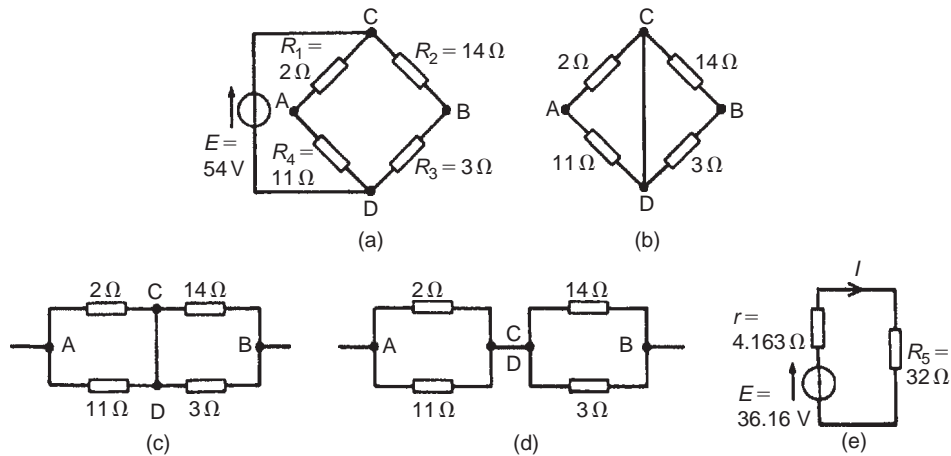

Figure 15.48
- (i) The 32Ω resistor is removed from the circuit as shown in Fig. 15.48(a)
- (iii) Replacing the source of e.m.f. with a short-circuit (i.e. zero internal resistance) gives the circuit shown in Fig. 15.48(b). The circuit is redrawn and simplified as shown in Fig. 15.48(c) and (d), from which the resistance between terminals A and B,
(iv) The equivalent Thévenin's circuit is shown in Fig. 15.48(e), from which, current